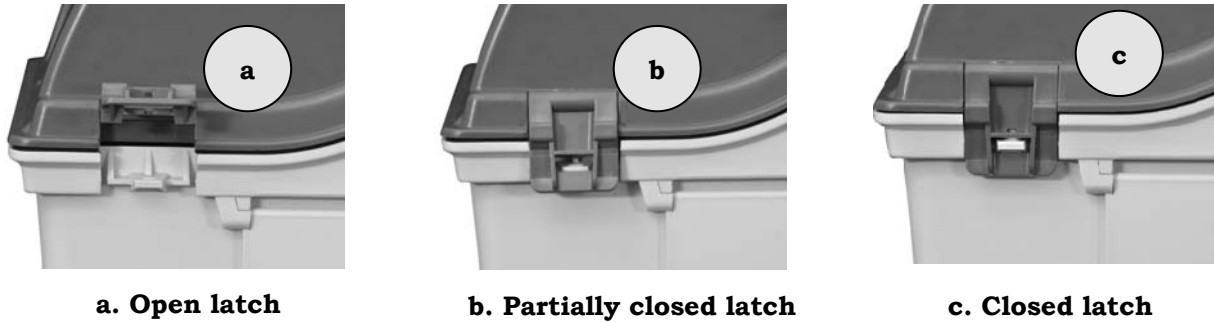

Figure 3.17 - Sealing of Paper Roll Compartment
- (a) Close the paper roll compartment door of the VVPAT - M3 unit and lock the two latches provided on either side as shown in Figure 3.17.